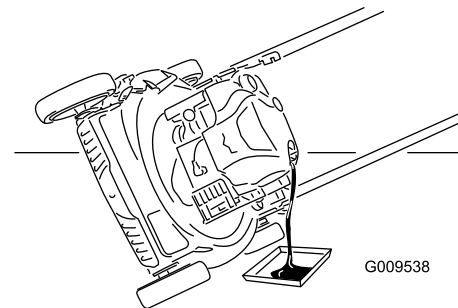

Figure 20
7. Tip the machine onto its side, with the oil-fill tube down, to drain the used oil through the oil-fill tube into the oil-drain pan (Figure 20).